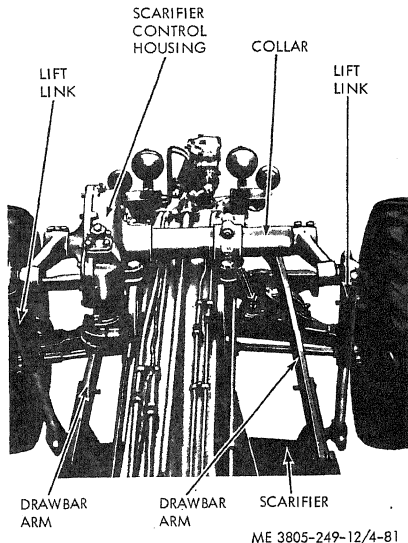

Figure 4-81. Scarifier assembly.
(2) Attach a hoist to support the housing.
(3) Disconnect the shaft to the lower control housing.
(6) Install the housing in the reverse order of removal.
(7) To determine the number of shims to install in the lift link ball and socket joints, refer to paragraph 4-75.
b. Frame and Drawbar Replacement. Refer to figure 4-81.
(1) Lower the scarifier to the ground and block in position.
(2) Disconnect the lift links from the scarifier by removing two bolts and lockwashers and the cap at each ball joint.